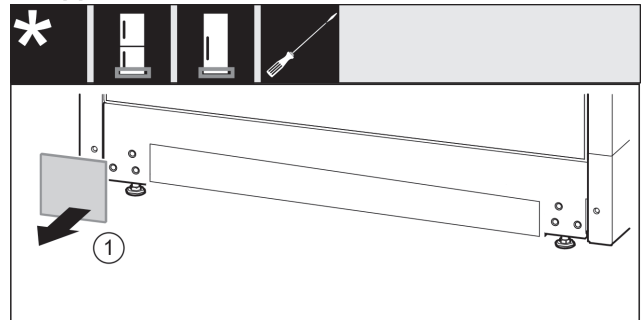

Fig. 13
- ▶ Take off the cover. Fig. 13 (1)